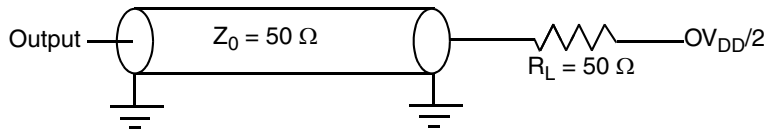

Figure 29. AC Test Load for the JTAG Interface
1. All outputs are measured from the midpoint voltage of the falling/rising edge of  $t_{TCLK}$  to the midpoint of the signal in question. The output timings are measured at the pins. All output timings assume a purely resistive 50-Ω load (see Figure 29). Time-of-flight delays must be added for trace lengths, vias, and connectors in the system.
2. The symbols used for timing specifications herein follow the pattern of  $t_{(first\ two\ letters\ of\ functional\ block)(signal)(state)(reference)(state)}$  for inputs and  $t_{(first\ two\ letters\ of\ functional\ block)(reference)(state)(signal)(state)}$  for outputs. For example,  $t_{JTDVKH}$  symbolizes JTAG device timing (JT) with respect to the time data input signals (D) reaching the valid state (V) relative to the  $t_{JTG}$  clock reference (K) going to the high (H) state or setup time. Also,  $t_{JTDXKH}$  symbolizes JTAG timing (JT) with respect to the time data input signals (D) went invalid (X) relative to the  $t_{JTG}$  clock reference (K) going to the high (H) state. Note that, in general, the clock reference symbol representation is based on three letters representing the clock of a particular functional. For rise and fall times, the latter convention is used with the appropriate letter: R (rise) or F (fall).
Figure 29 provides the AC test load for TDO and the boundary-scan outputs.
Figure 29 provides the AC test load for the I2C.